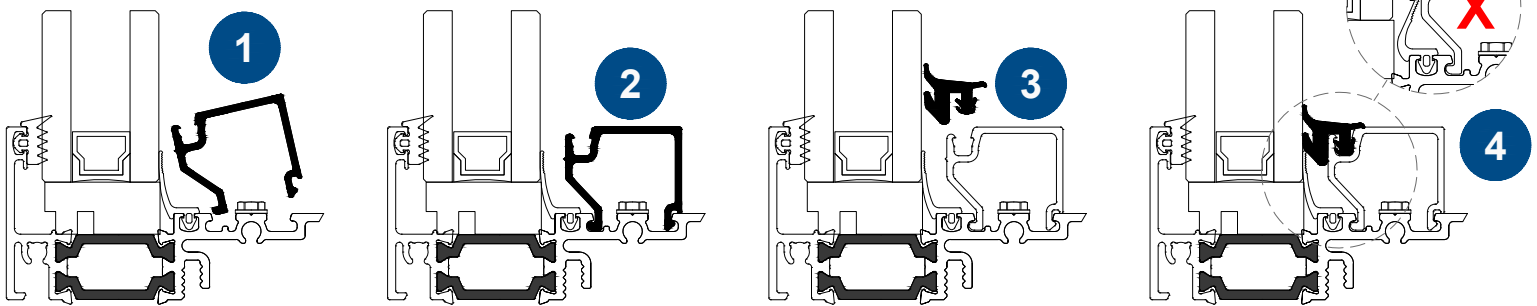

FIG. 3
- c. Insert glazing gasket starting from one end, repeat this every 16" [406]. Ensure opposite end of the gasket is inserted before rolling remaining gasket. **See FIG. 3, STEPS 3**
- d. Ensure glazing gasket is pressing against airseal gasket. **See FIG. 3, STEPS 4**